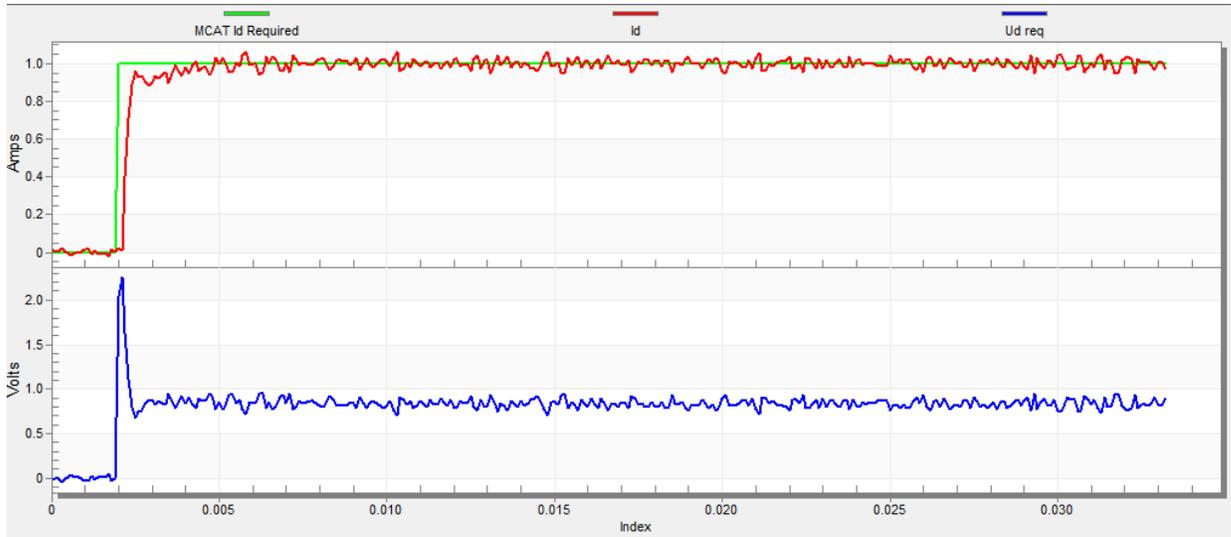

Figure 30. Optimal step response of the Id current controller
- The loop bandwidth (400 Hz) is optimal and the response time of the Id current is sufficient (see Figure 30).